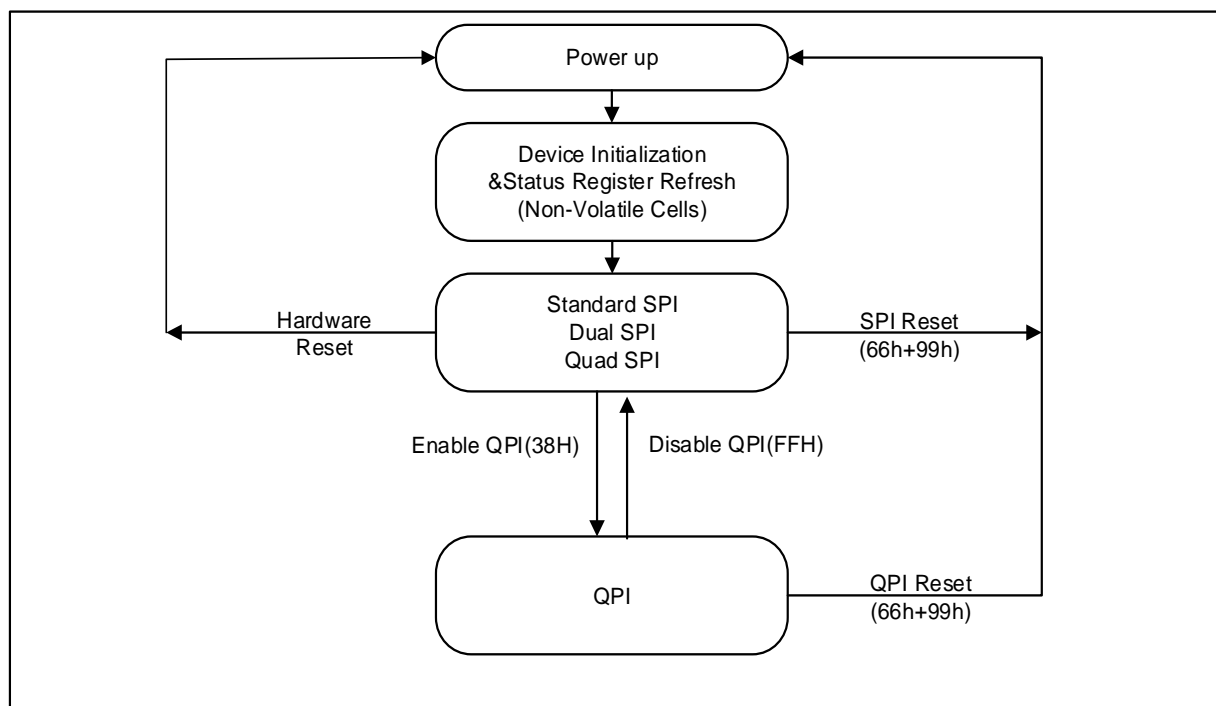

Figure 3. XM25QU128C Serial Flash Memory Operation Diagram
The XM25QU128C supports Quad Peripheral Interface (QPI) operations only when the device is switched from Standard/Dual/Quad SPI mode to QPI mode using the “Enter QPI (38h)” instruction. The typical SPI protocol requires that the byte-long instruction code being shifted into the device only via DI pin in eight serial clocks. The QPI mode utilizes all four IO pins to input the instruction code, thus only two serial clocks are required. This can significantly reduce the SPI instruction overhead and improve system performance in an XIP environment. Standard/Dual/Quad SPI mode and QPI mode are exclusive. Only one mode can be active at any given time. “Enter QPI (38h)” and “Exit QPI (FFh)” instructions are used to switch between these two modes. Upon power-up or after a software reset using “Reset (99h)” instruction, the default state of the device is Standard/Dual/Quad SPI mode. To enable QPI mode, the non-volatile Quad Enable bit (QE) in Status Register-2 is required to be set. When using QPI instructions, the DI and DO pins become bidirectional IO0 and IO1, and the /WP and /HOLD pins become IO2 and IO3 respectively. See Figure 3 for the device operation modes.